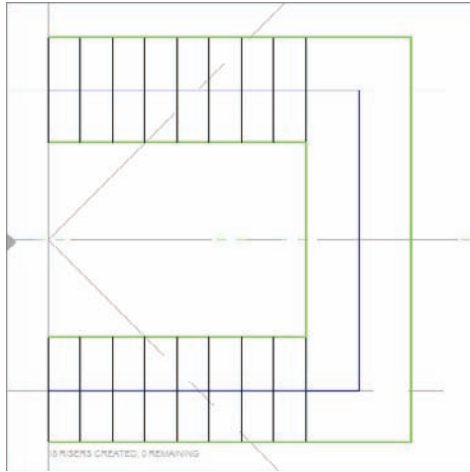

FIGURE 10.6 The stairs have been laid out.
14. When you see the second flight completed, pick the last point. Revit draws both flights as well as the landing (see Figure 10.6).